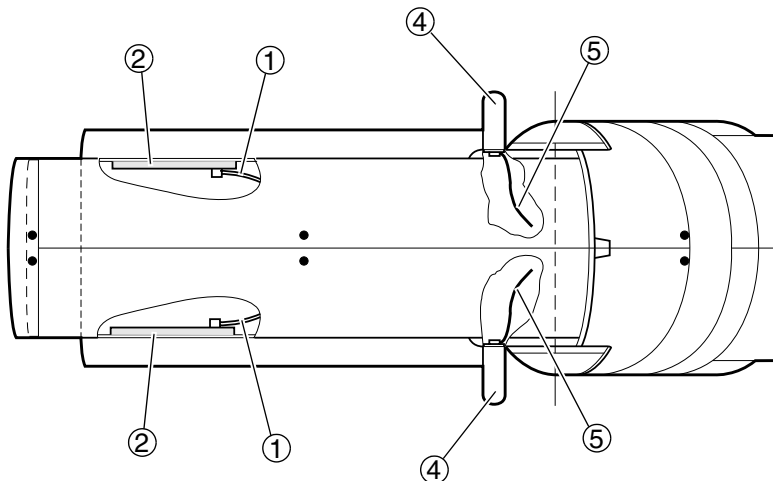

Fig. 9 Connecting the cables
1. Connect cables X807 (1/Fig. 9) to control button circuit boards D807 (2/Fig. 9).
2. Connect ground wires (3/Fig. 9) to patient handles (4/Fig. 9).